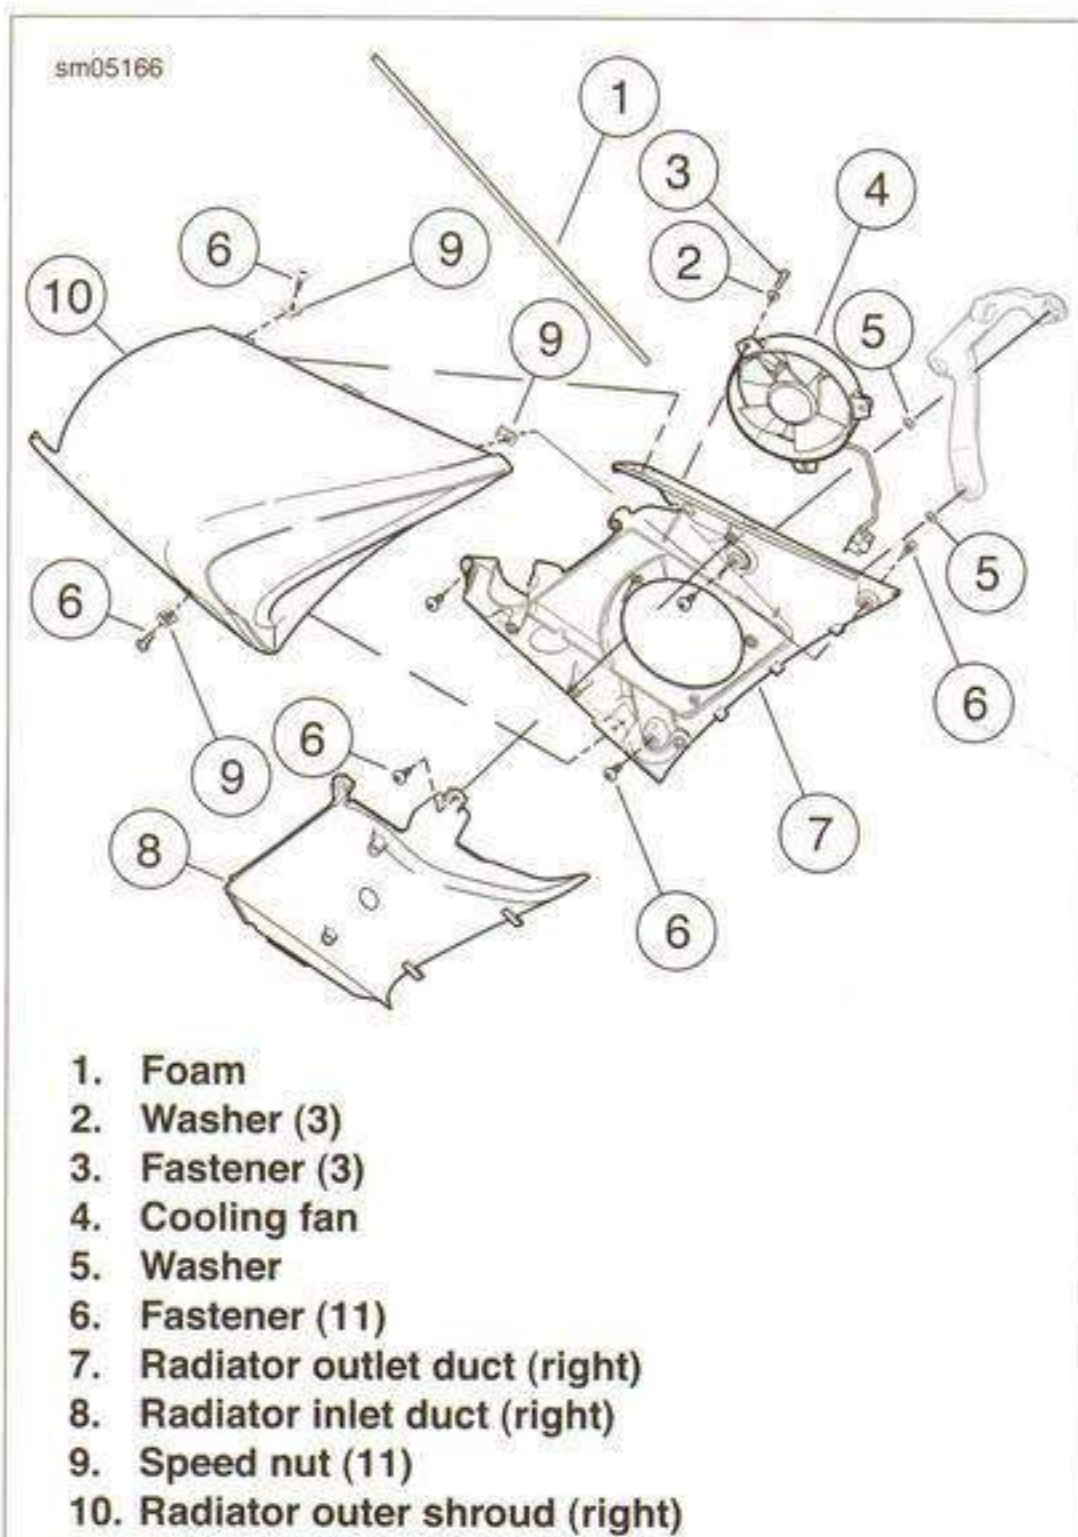
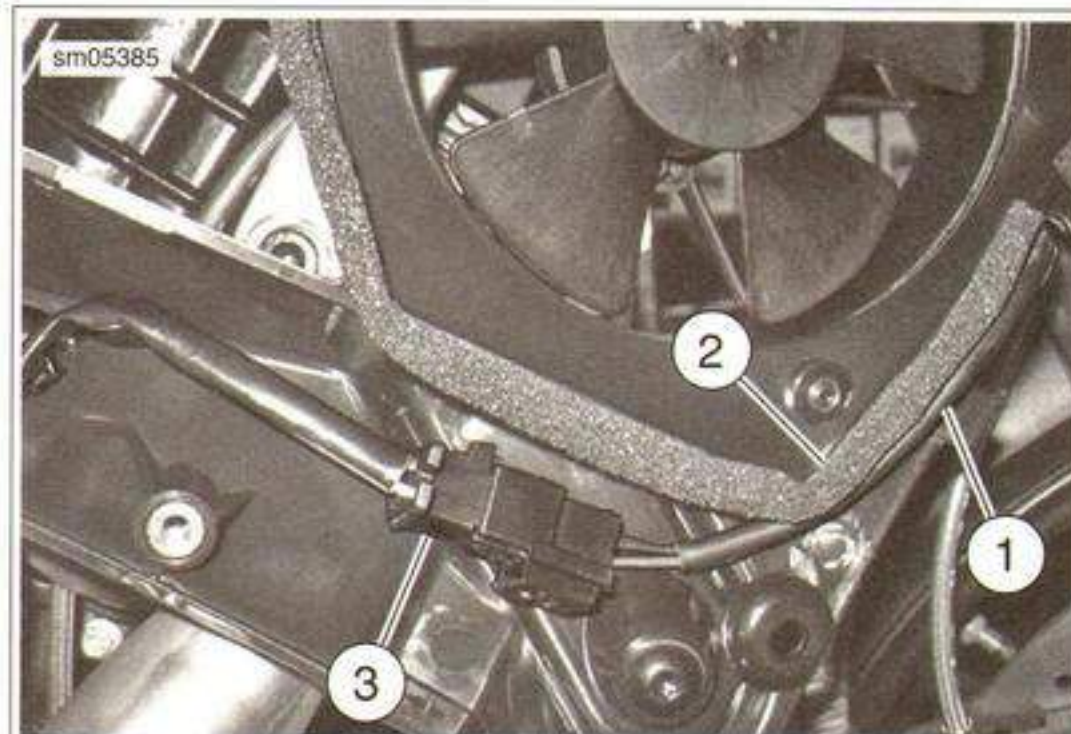

Figure 7-131. Right Side Cooling Fan Components
Figure 7-132. Right Side Cooling Fan Wiring Harness Routing
1. See Figure 7-131. Install cooling fan (4).
2. Install cooling fan washers (2) and fasteners (3), and tighten fasteners to 9.7-10.9 Nm (86-96 in-lbs).
3. See Figure 7-132. Route cooling fan wiring harness (1) downward, outside of foam (2) and connect to cooling fan wiring harness connector (3).
4. See Figure 7-131. Position radiator outlet duct (7) and install fasteners (6). Tighten fasteners to 13.0-14.5 Nm (115-128 in-lbs).